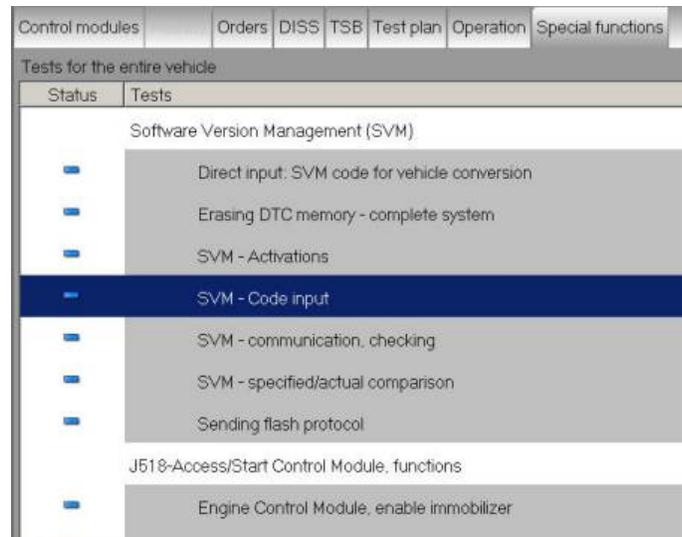

Figure 5. Selecting “SVM - Code input”.
5. To perform SVM in GFF, select the “Special functions” tab, then “SVM - Code input” (Figure 5).